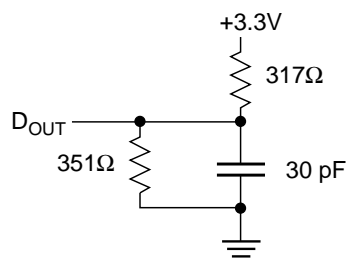

Figure 1. Output Load
Output load	See Figures 1 and 2
6. The following parameters are measured using the load shown in Figures 1 and 2.
- (A) t_{COE} , t_{OEE} , t_{BE} , $t_{OE\overline{W}}$ Output Enable Time
- (B) t_{COD} , t_{ODO} , t_{BD} , $t_{OD\overline{W}}$ Output Disable Time